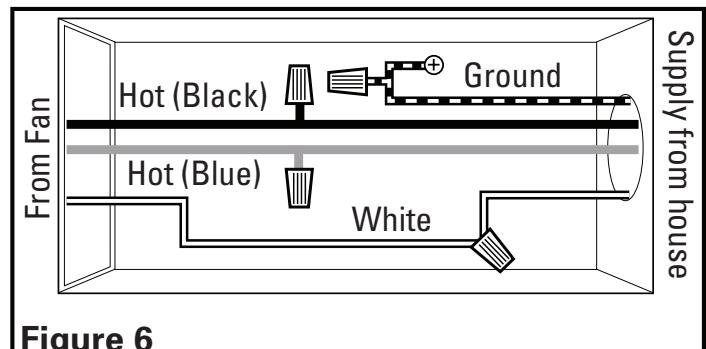

Figure 6
- 1b. From where you have access to inside the fan's junction box, connect the white wire from the house to the white wire from the fan. Connect one hot (black) wire from the house to the black wire from the fan (this is the fan control). Connect the second hot (blue) wire from the house to the blue wire from the fan (this is the heat bulb control). Connect the ground wire from the house to the green wire from the fan (**Figure 6**). Use approved methods for all connections.